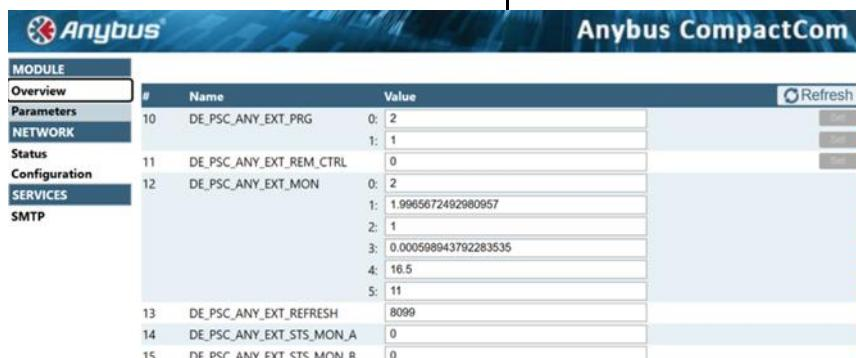

Figure 4.1: Anybus insert's web interface
4. The IP address can be entered into a web browser, such as Firefox or Chrome, to access the Anybus Control Panel. If the control panel is accessible, correct communication setup of the PSC-ANY-EXT has been validated. See Figure 4.1 for an illustration of the Anybus insert's web interface.